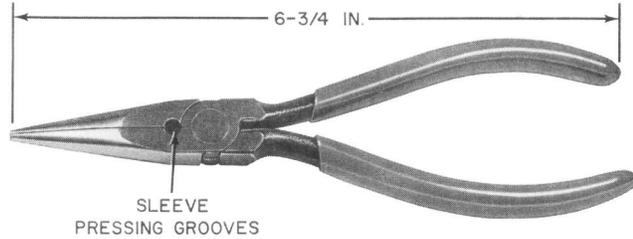

Fig. 6—AT-7860 C or E Long-Nose Pliers
2.06 AT-7860 C or E: The AT-7860 C or E tools are long-nose pliers (Fig. 6). The tools are identical except the E pliers have an insulating aluminum oxide coating on the jaws. Both tools are provided with mating grooves near the joint for use in pressing 032-035 brass sleeves. The orange plastic cushion grips do not provide protection against hazardous voltage.